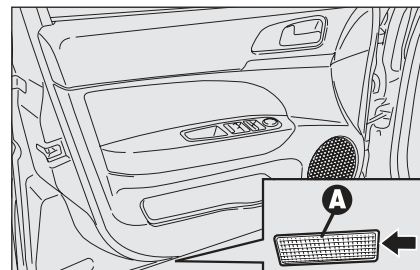
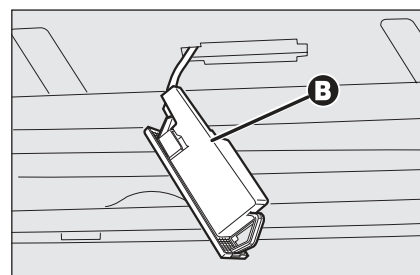

fig. 52
fig. 53
- ☐ open the door and remove lens **A-fig. 52** levering in the point shown by the arrow;
- ☐ raise protection **B-fig. 53** and replace the snap-fitted bulb;
- ☐ close protection **B-fig. 53** on light unit **A-fig. 52**;